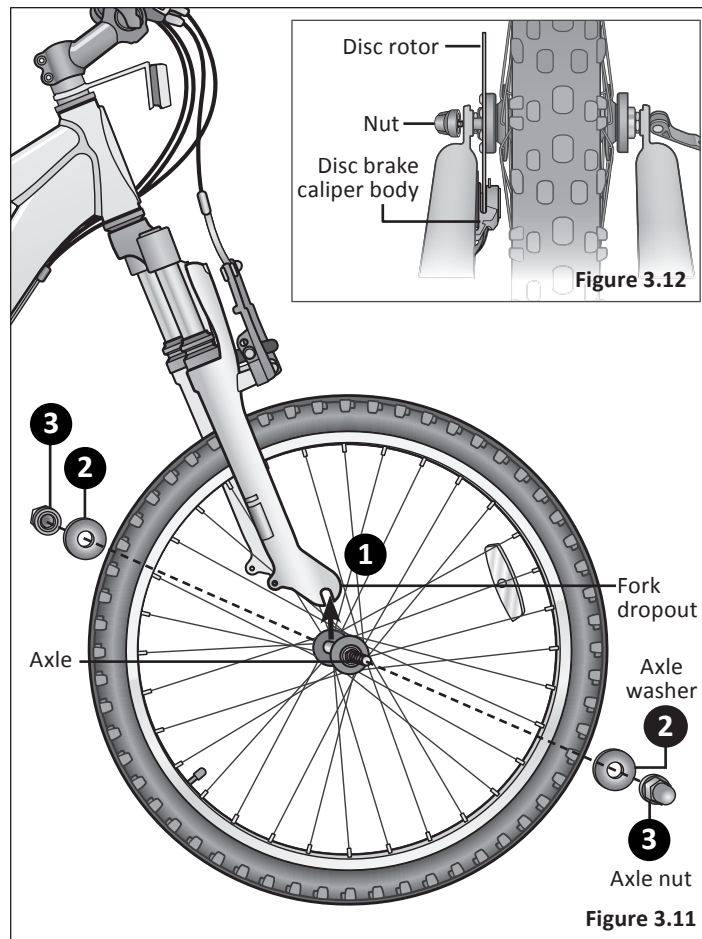

Figure 3.11
- 1** Position the front wheel between the front fork legs with the axle resting inside the fork drop outs. **Note:** If the front wheel has a disc brake insert the disc rotor into the slot on the caliper body as you insert the wheel axle into the fork drop out. **Important!** Be sure the wheel is as **centered** as possible between the fork legs. **Figure 3.11**